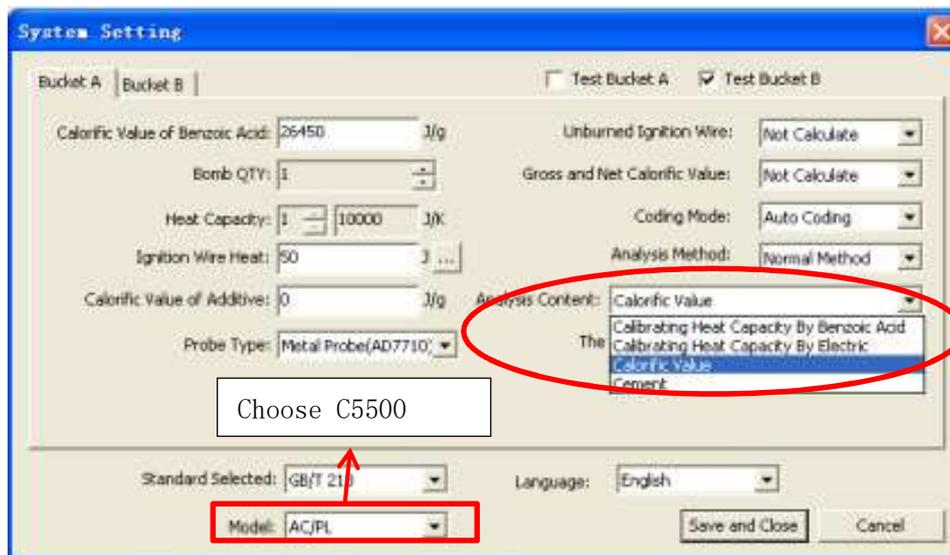

Figure 7
1. Click "system setting " again , and change analysis content into "Calorific Value"(Figure 7)